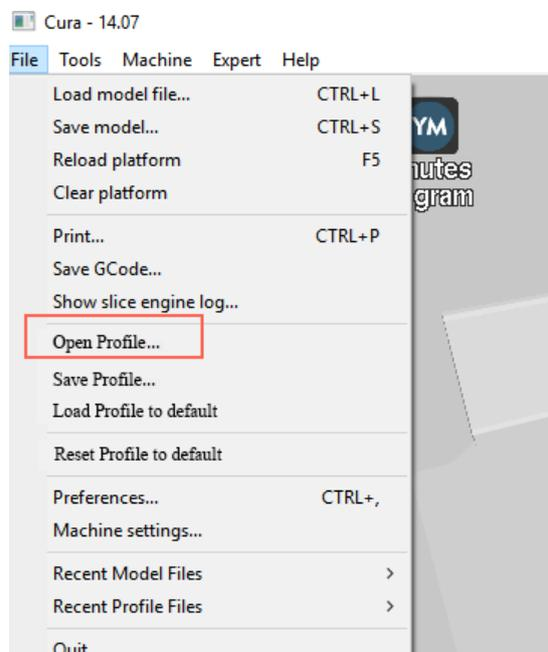

Figure 6.23 Import slice parameters
3. Set slice parameters, and select **File > Open Profile** to import these parameters, as shown in Figure 6.23.